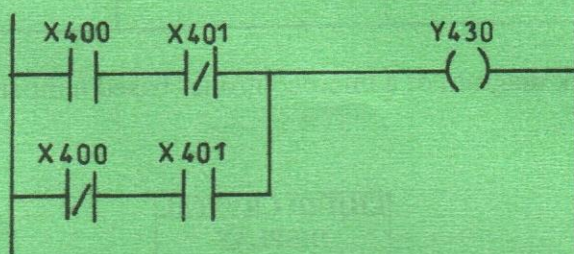

Fig. 2
- (c) Figure 2 shows a PLC ladder diagram: